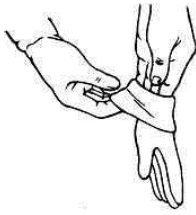

Figure 1
**Before handling the StarBright CLR® material (H), put on the supplied pair of white gloves (G) to avoid leaving fingerprint marks, dust or oil from your hands on the surface of the material (Figure 1). The StarBright CLR® material (H) is very delicate and should be handled with extreme care. Do not allow the material to fold or bend. Failure to follow instructions will result in permanent damage to the screen material, which is not covered by warranty.**
1. Remove the StarBright CLR® material (H) from the packaging tube and set it gently on a clean surface.